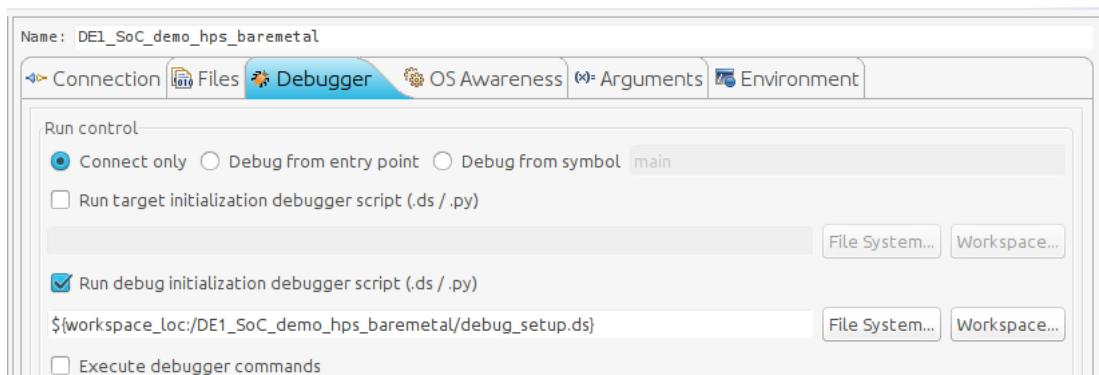

Figure 12-7. Debug Configuration "Debugger" Tab
- Enable the "Run DEBUG initialization debugger script (.ds / .py)" checkbox. Set the debug script to the one we defined for the project in 12.2.2. You should have something similar to Figure 12-7.